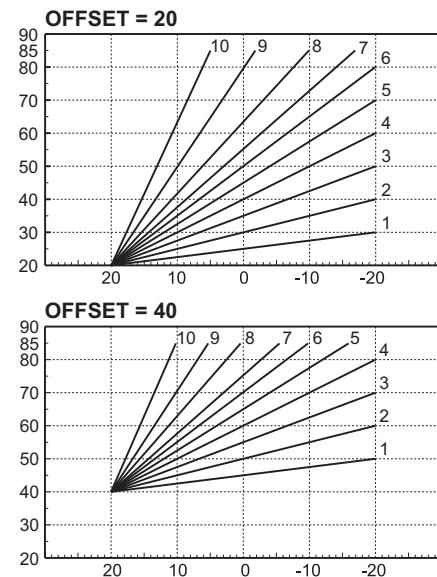

fig. 23- Example of compensation parallel curve offset
**Offset:** Access this sub-menu to access parallel offset of the curves using the buttons  and  **DHW**. Refer to fig. 23 for the characteristics.